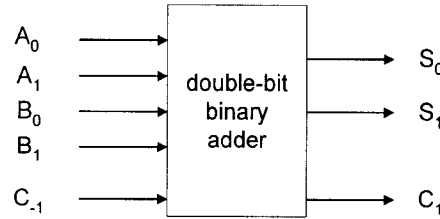

Figure 3.1
3. a) Figure 3.1 shows a double-bit binary adder circuit, which takes two 2-bit numbers  $A1:A0$  and  $B1:B0$  and a carry input  $C_{-1}$ , and produces a 2-bit sum  $S1:S0$  and a carry output  $C_1$ . Derive a Boolean expression for the carry output  $C_1$  of the double-bit binary adder shown in Figure 3.1 in terms of its inputs  $A_0$ ,  $A_1$ ,  $B_0$ ,  $B_1$  and the input carry  $C_{-1}$ .